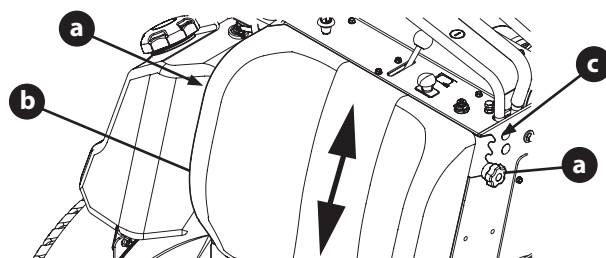

Fig. 6
1. Loosen the two star knobs (a) securing the leg pad (b) to the mower (Fig. 6).
3. Reposition the leg pad into one of three height positions (c) (Fig. 6).